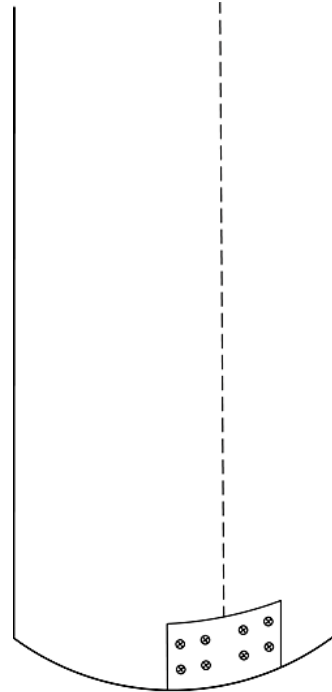

FIGURE 3
6. Screw down one side of the aluminum plate and then the other side of the plate. The aluminum plates will bend around the shaft. Repeat on all plates. [FIGURE 3]